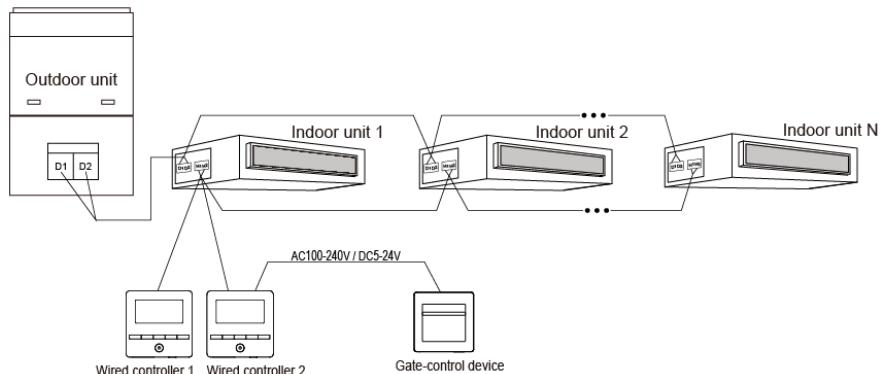
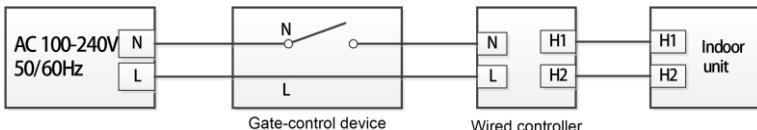
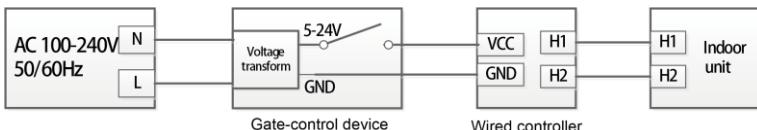

Figure 3.11 Connection fashion 2 of Wired Controller and Gate Control
Figure 3.12 Wired Controller Connecting to Gate Control AC100-240V
Figure 3.13 Wired Controller Connecting to Gate Control DC5-24V
- ① Wired controller 2 in figure 3.11 can be set as master controller or slave controller;
- ② Wired controller 1 in figure 3.11 can be model XK49 or other models.
- (4) Power input of gate control card insertion/removal device supported by wired controller: AC 100-240V~50/60Hz, DC 5~24V. In practice, connect the gate control output power cord with the corresponding power supply interface of wired controller according to the type of output power of gate-control device (Please refer to 3.1.4 Installation for wire connection of specific interface). Wired controller will judge the placing and absence of card by detecting the power supply of gate-control device. The detecting process is as follow:
(5) Inserting or removing the gate control card is like connecting or disconnecting power of the gate control device. When the card is inserted, the device supplies power AC100-240V/DC5-24V to wired controller which identifies card insertion. When the card is removed, the device stops supplying power AC100-240V/DC5-24V to wired controller which identifies card removal. Figure 3.12 and figure 3.13 demonstrate wired controller connecting gate control power of AC100-240V or DC5-24V: